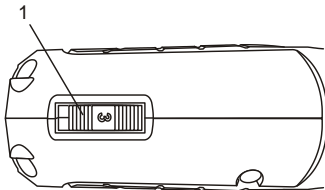

Fig. 5
Set the detail saw speed by rotating the variable speed control wheel (1) to the appropriate speed (Fig. 5). Rotating the variable speed control wheel toward the rear of the detail saw will result in slower speeds. Position the speed control dial at "1" for the slowest speed, "3" for medium speed and at "MAX" for the highest speed.